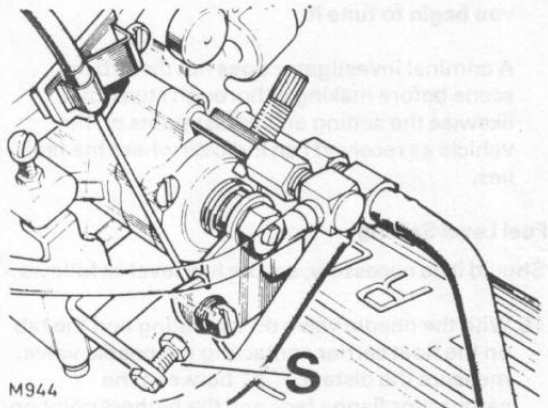

FIG. 76
20. Check the operation of the choke and cable, i.e. that full choke on the hand control coincides with full choke at the carburettor and when the hand control is fully **ON** the choke at the carburettor is fully **OFF**. Ensure that the fast idle screw "S" is fully released at this stage. Fig. 76.